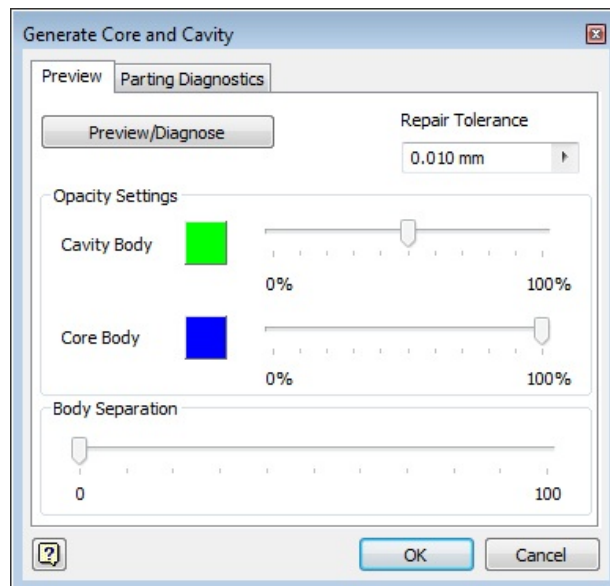

Figure 19-78 *The Generate Core and Cavity dialog box*
1. Choose the **Generate Core and Cavity** tool from the **Parting Design** panel in the **Core/Cavity** tab of the **Ribbon**; the **Generate Core and Cavity** dialog box is displayed, as shown in Figure 19-78.